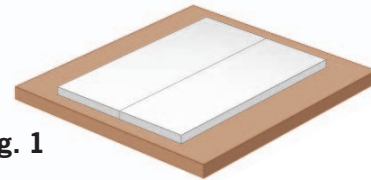
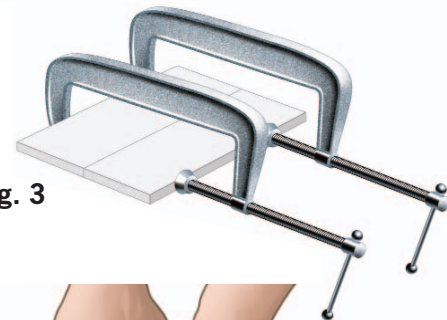

Fig. 1
Fig. 3
1. Clear your work area and place the fireproof mat where you will work. Place two blocks of paraffin side by side as shown in Fig. 1. Push the blocks together tightly and evenly.
6. Place the second set of blocks side by side as shown in Fig. 1. Push the blocks together tightly and evenly. Open the C-clamps so that you can fit them quickly and easily over the blocks as shown in Fig. 3. Put the open clamps aside.